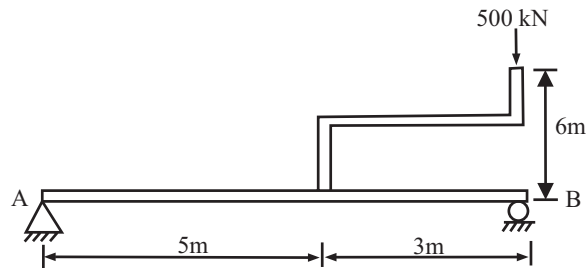

Fig 6
Q.6. Draw the shear force diagrams for the beam AB (Fig.6) loaded through the attached strut.